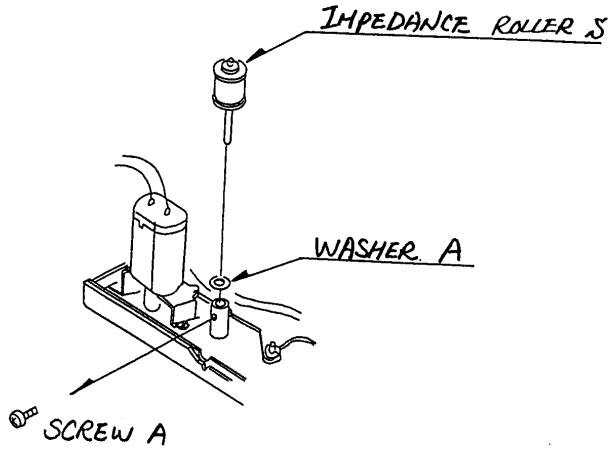

Fig 2
- 1.3 Remove Screw A. This screw is used again, do not lose it. See Fig 2.
Remove existing Impedance Roller S Assy and polyester Washer A. Abandon them. See Fig 2.